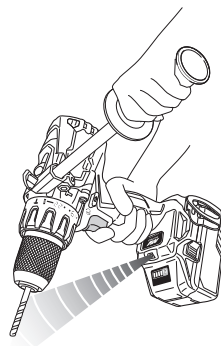

Fig. 23
17. LED light warning signals (Fig. 23)